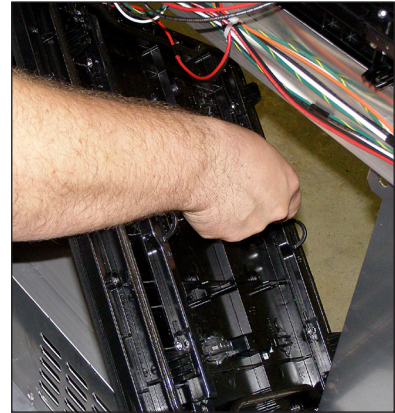

Figure 21: Rotate Module To Clear Face Sheet
1. Rotate and carefully guide the module through the module opening. Refer to **Figure 21**.